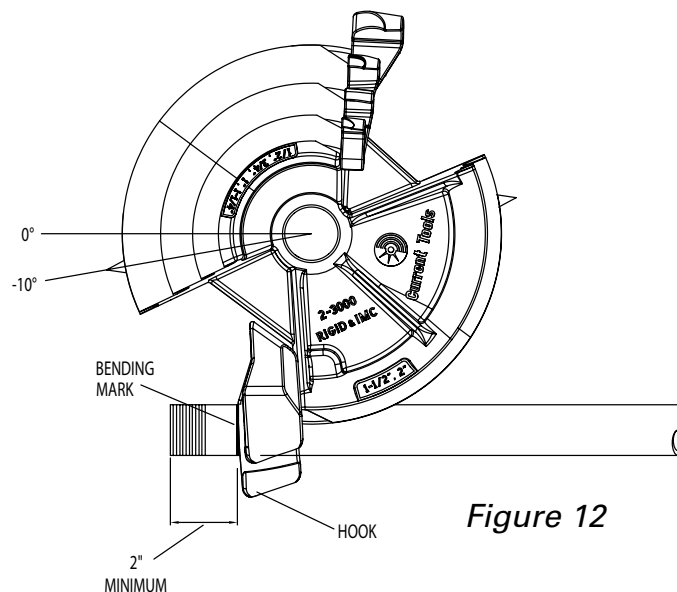

Figure 12
1. Mark pipe/conduit to the desired length. Note that a 2" minimum distance from the end of the conduit to the bending mark is required to eliminate flattening the end of the pipe/conduit. See Figure 12.
2. Rotate the bending shoe to 10 degrees below the 0 (zero) degree setting, as shown in Figure 12 below.
3. After marking the pipe/conduit, place it into the bender. See Figure 12. The pipe/conduit should slide over the correct size roller support, through the shoe groove and into the hook. The bending mark should be at the front (OUTSIDE) edge of the hook. See Figure 12.
3. Rotate the bending shoe to 10 degrees below the 0 (zero) degree setting. See Figure 12.